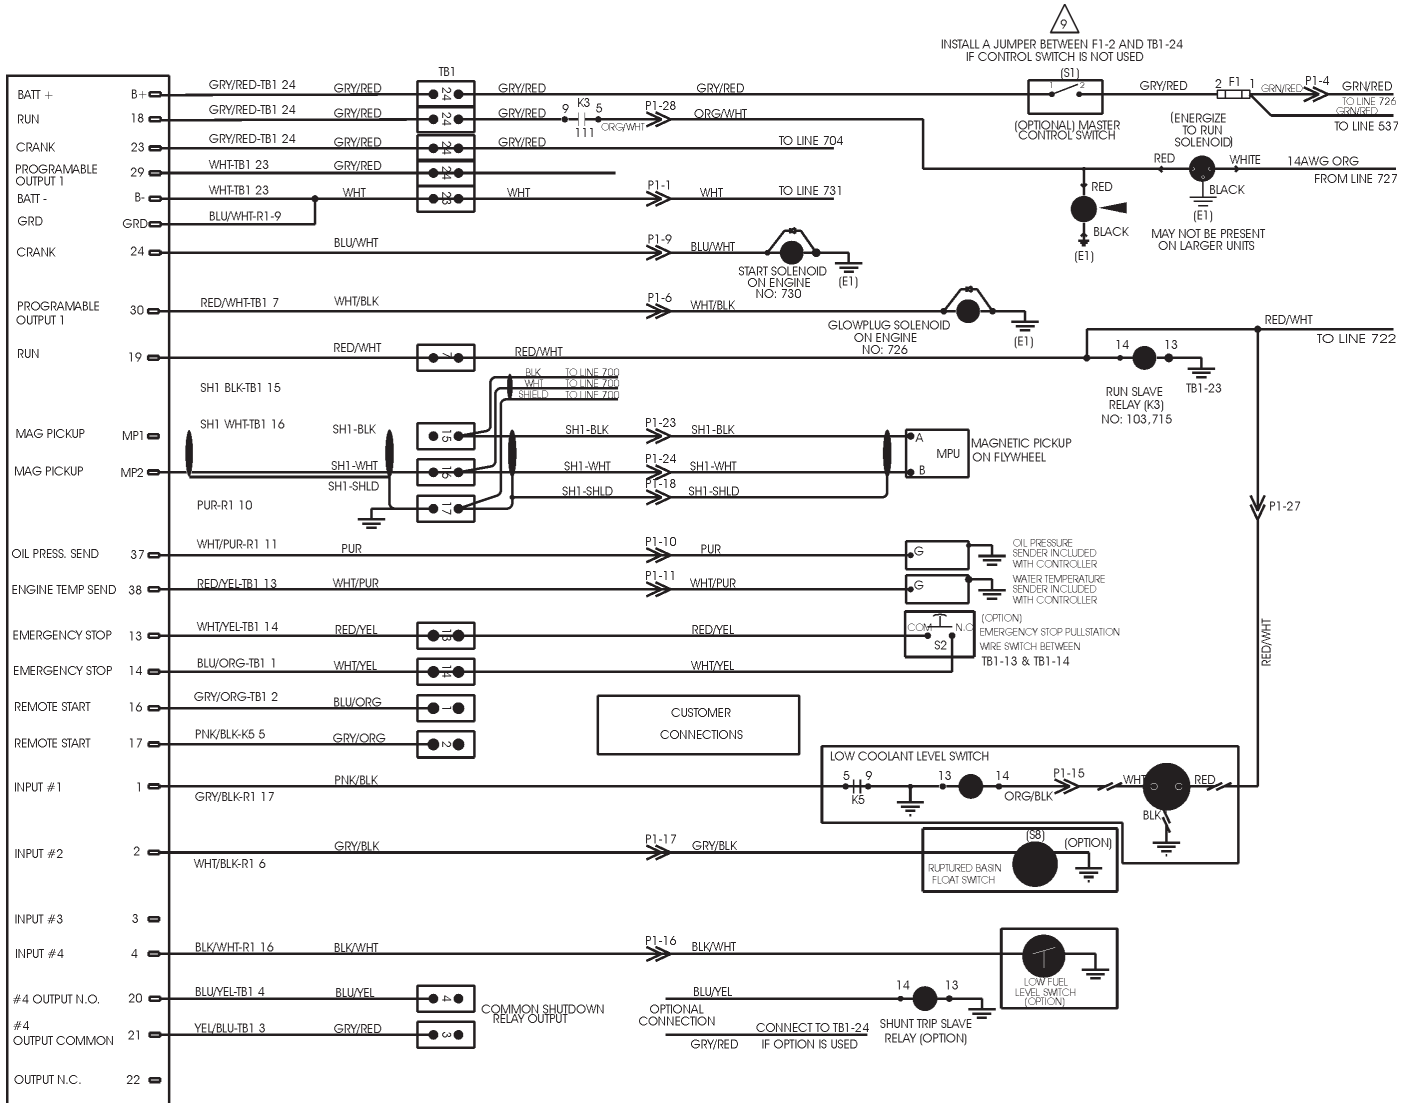

Figure 34. Generator Set Wire Diagram
⑤ **Low Coolant Level Relay (K3)** – This relay is installed to interface with the low coolant level switch to the genset controller.
⑥ **Relay DIN Rail** – This rail holds all the relays used for DC controls.
⑦ **Terminal Block One (TB1)** – This terminal block is used for DC control wiring. See the generator set wire diagram (Figure 34) on page 72 for details.
⑧ **Control Power Fuse** – This fuse protects terminal block one (TB1) from overcurrent. Remove this fuse when servicing TB1.